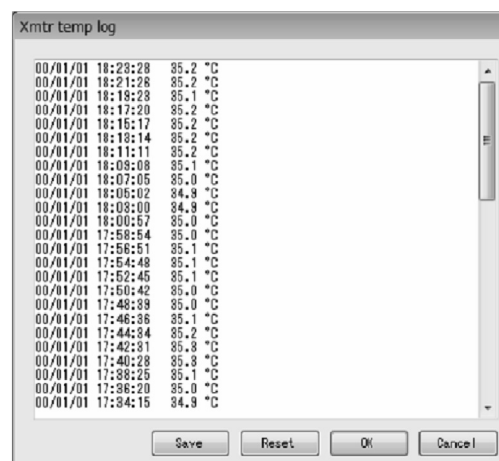
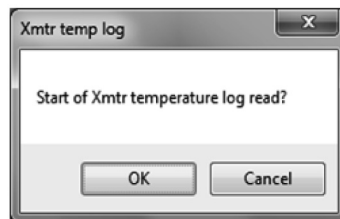

Fig.157
Fig.160
- ⑤ Click "Cancel" to close the "Error log" window.
- ① Click the "Maintenance (M)" menu, and then select and click "Xmtr temp log" from the "Maintenance xmtr" drop-down list.
- ② The following window will be displayed (Fig. 157).
- ⑤ Also, to display the most recent log entry, click the "OK" button in the screen shown in Fig. 157 to display a message box (Fig. 160).